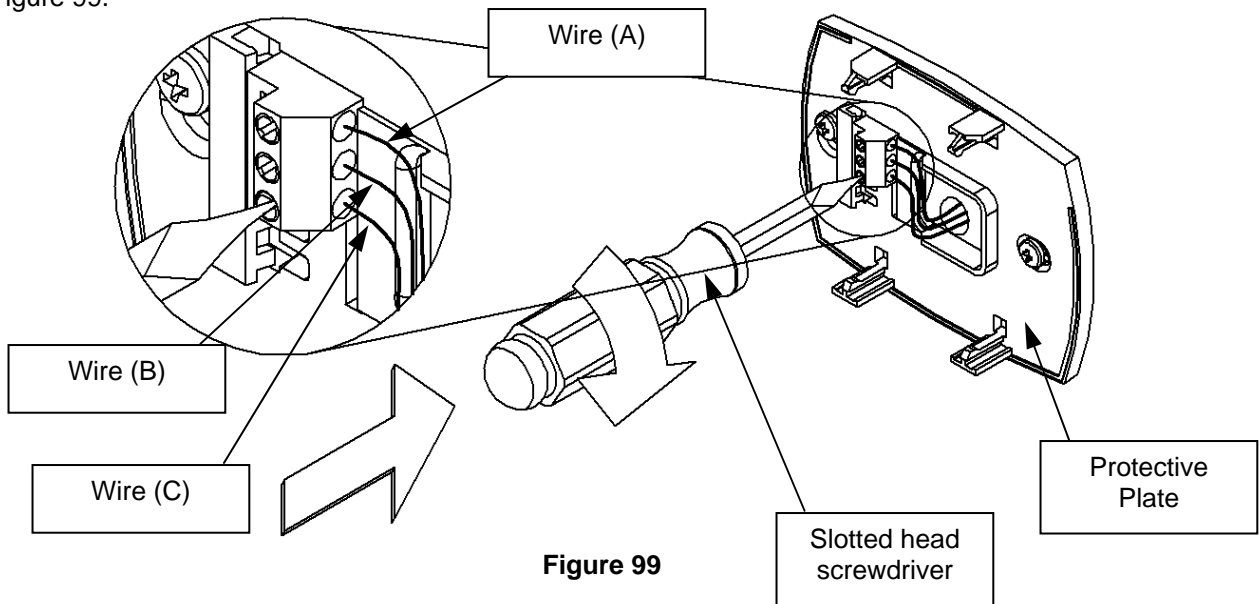

Figure 99
Step 19: Tighten the slotted screw in the bottom terminal location on the Protective Plate. This is shown in Figure 99.